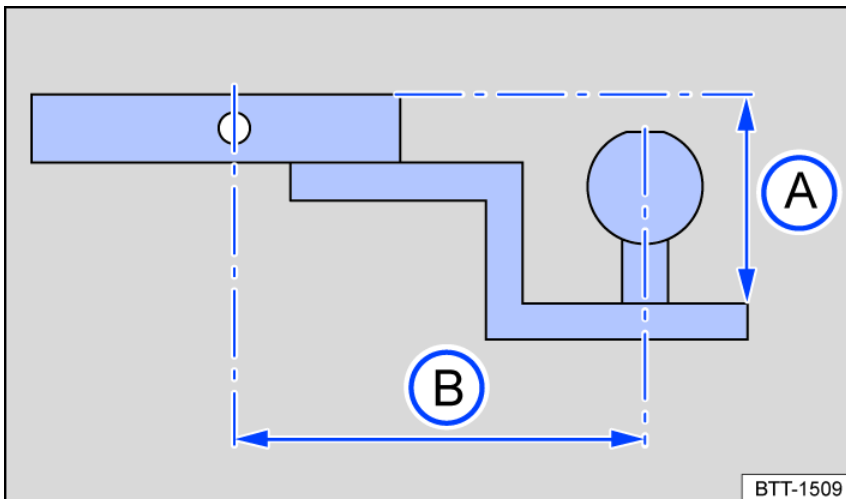

Fig. 124 Dimensions of the ball mount holder and receptacle.
The mount requires a special shape and size of ball mount holder and ball mount. This affects both the suspended height of the ball coupling [fig. 124 !\[\]\(f60b7a900783ac3fd531bfd9c111be6d_img.jpg\)](#) and the distance between the socket pin and the ball coupling [fig. 124 !\[\]\(fe5cf1978663f480c504f8fc2019fe62_img.jpg\)](#).
- The drop heights *fig. 124* **A** from the upper edge of the ball mount to the upper edge of the neck may be no more than 63.5 mm (2 1/2 inches) in the "DROP" position and not more than 47.625 mm (1 7/8 inches) in the "RISE" position.
- The distance between the socket pin and the ball mount *fig. 124* **B** must not exceed 177.8 mm (7 inches) from the middle of the ball mount to the middle of the eye of the pin.